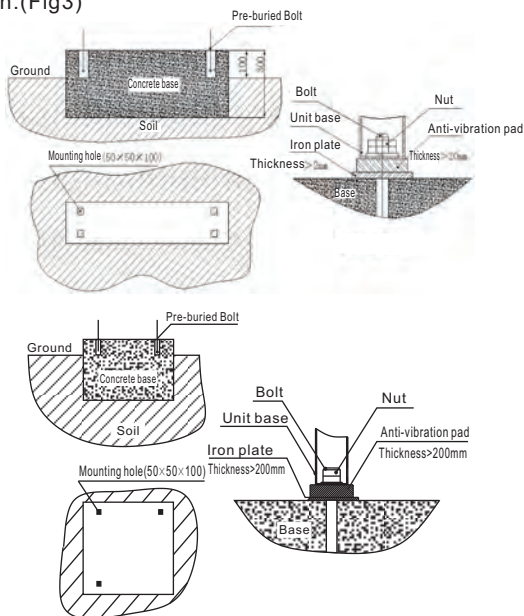

Fig 3
According to the position and installed dimension to made the base.(Fig 3)
- 8) To avoid units distortion and even rupture, which is caused in displacement of the unit run for a long time, you should take some measures to fix the unit at the restrict position.(Fig3)